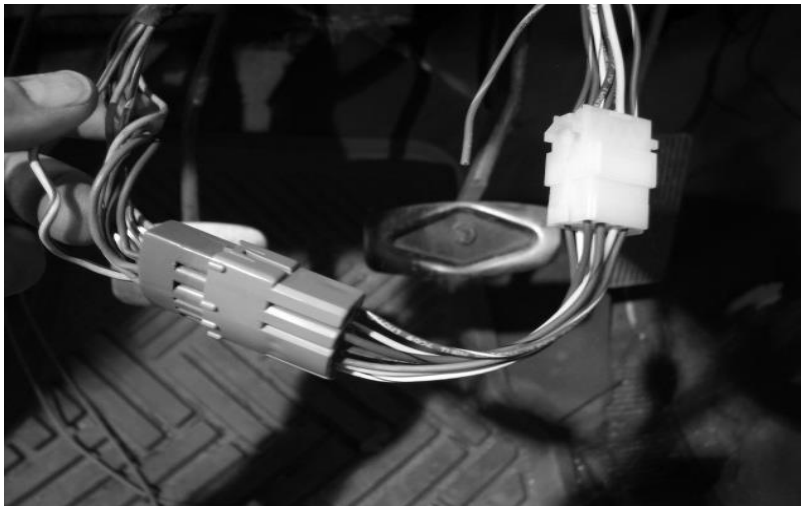

Figure 7-15 Late Model Turn Pigtail ('73-'77)
- 7.6.2** On 1973-1977 Model Trucks it will be necessary to use the provided "Late Model Turn Pigtail," when connecting the turn signal switch. The pigtail wire colors match the original colors from the old harness. **See Figure 7-15.**